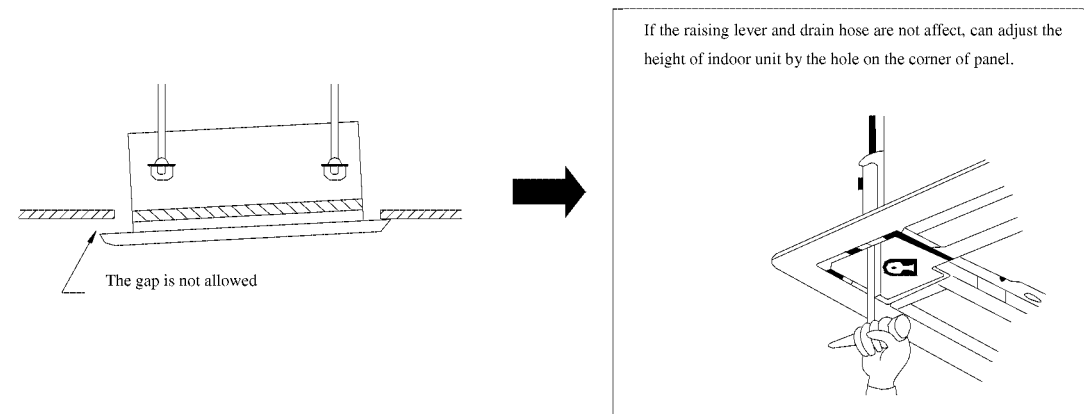

Fig.18
2. If gap still exist between ceiling and decoration panel after tightening the screws, readjust the height of the indoor unit. (As shown in fig.18)